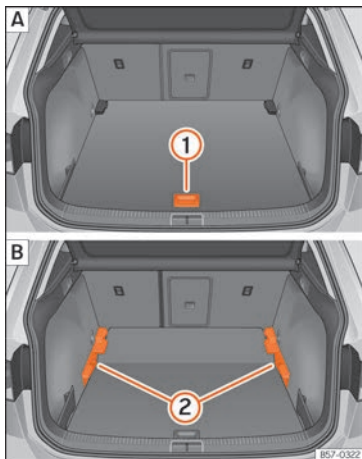

Fig. 130 Variable luggage compartment floor:
- To move from the low position to the high position, lift the floor using the handle »» Fig. 130 ①, and pull it back until the front of the floor has fully passed the supports »» Fig. 130 ②.
- Move the floor forward over the supports as far as the rear seat backrest and then lower the floor with the handle ①.
- To move from the high position to the low position, lift the floor using the handle »» Fig. 130 ①, and pull it back until the front of the floor has fully passed the supports »» Fig. 130 ②.
- Now let the front part fall to the floor and slide the floor forwards as far as the rear seat backrest; lower the floor at the same time with the handle ①.
- Lift the variable floor in the high position using handle »» Fig. 130 ①, pull it up and push it towards the backrest of the rear seats until it folds along the hinge line and the movable part of the floor is resting on itself.
- To move from the high position to the low position, lift the floor using the handle »» Fig. 130 ① and pull it back a little.
- Push the variable floor towards the folded rear seats with the handle ① using some downward pressure so that the moving part of the floor is flush with the backs of the rear seats.